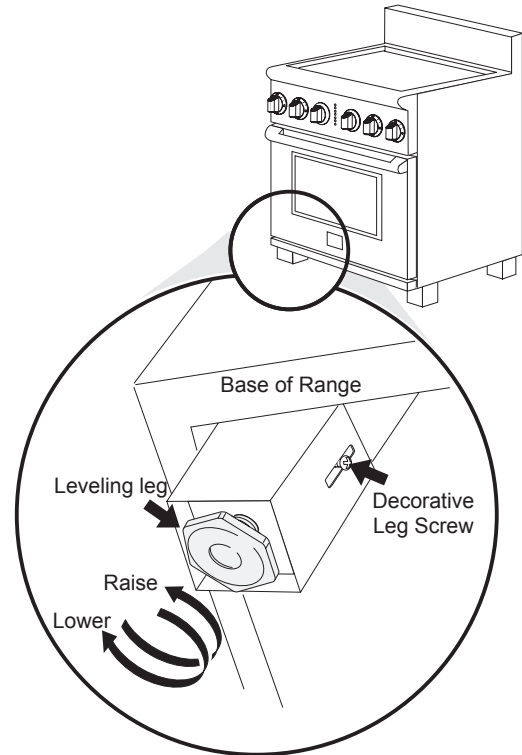

Figure 22: Adjusting appliance height
3. Level the range, if necessary, by adjusting the 4 leg levelers with a wrench (Figure 22).